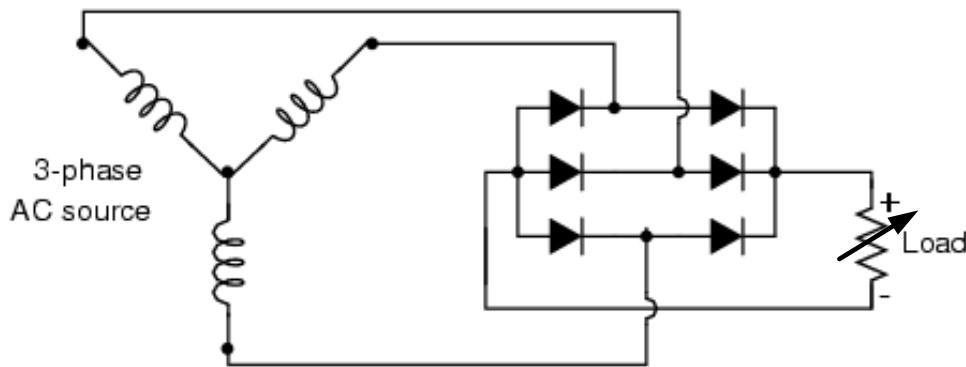

**Figure 2 – Plot with 100 ohms as Load**
6. Add the potentiometer back into the circuit and decrease the vertical range until the current and power plots are better visible. Your plot should like that in Figures 2. **Note the drops in voltage and RPM.**
With a load attached, the wind turbine now has a path to deliver current and power. As an example take the readings from Figure 2 above and with Ohm's Law calculate the current generated by the alternator into the 100 ohm resistor load.